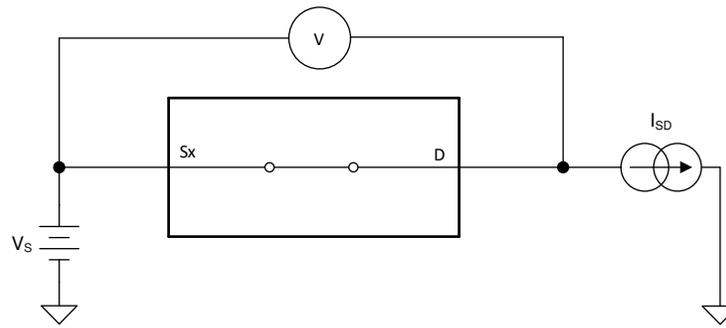

Figure 7-1. On-Resistance Measurement Setup
The on-resistance of a device is the ohmic resistance between the source (Sx) and drain (D) pins of the device. The on-resistance varies with input voltage and supply voltage. The symbol R_{ON} is used to denote on-resistance. The measurement setup used to measure R_{ON} is shown below. Voltage (V) and current (I_{SD}) are measured using this setup, and R_{ON} is computed as shown in Figure 7-1 with $R_{ON} = V / I_{SD}$: